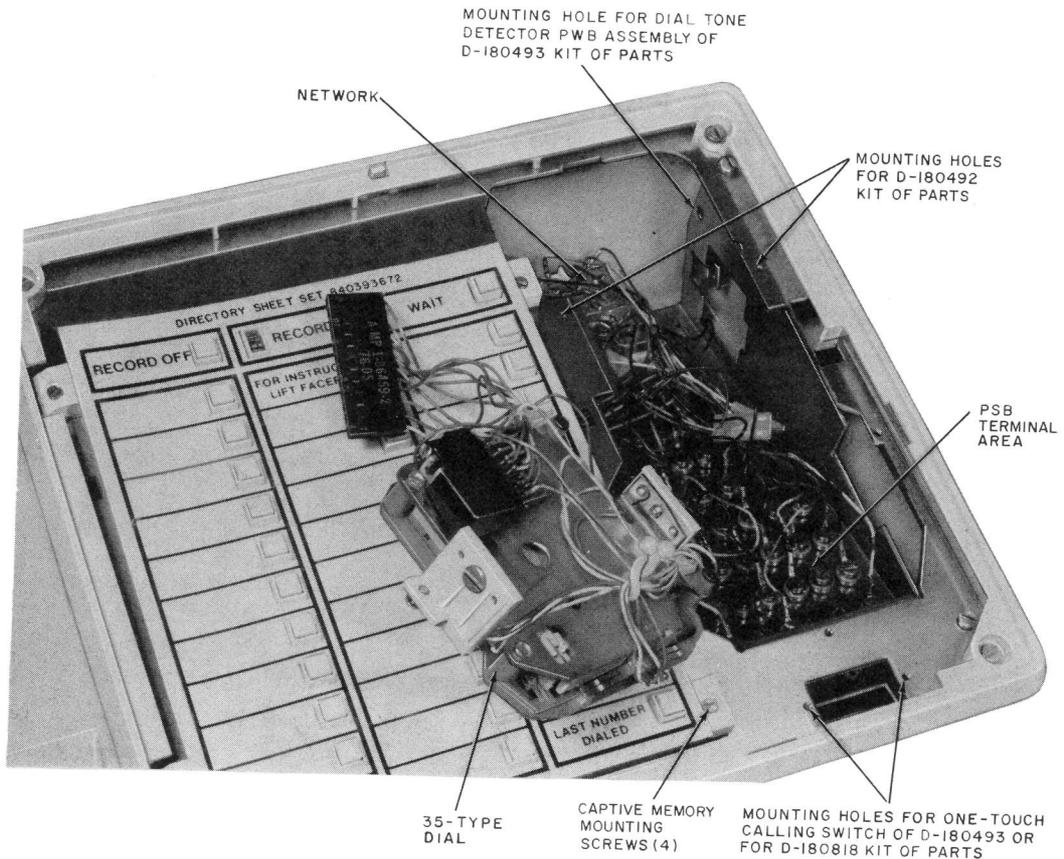

Fig. 4—Telephone Set—Dial Removed to Show Terminal Area
- Terminal board (TB).
- (b) The following are located under the faceplate, inside the set (Fig. 4 and 5):
- (2) Power supply (PSB) terminal area (Fig. 4)
- (3) Network (Fig. 4)
- (4) Options (Fig. 4) are as follows: